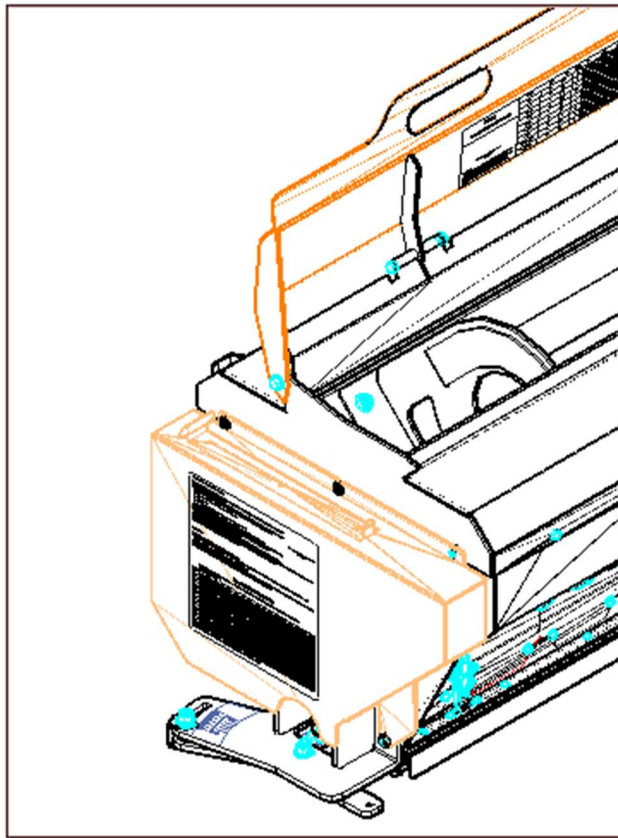

Figure 12. Quick Start Setting Guide - Step 3
3. Set seed plates and electric motor setting (use Figure 12 as starting point).
end. Figure 12 displays the Quick Start Setting Guide location inside the Primary Hopper Lid and the Calibration Chart located on the Chain Gaurd. This chart is used as a point of reference to help select the proper seed plate, set them in the right position, and start the electric motor at the right speed.